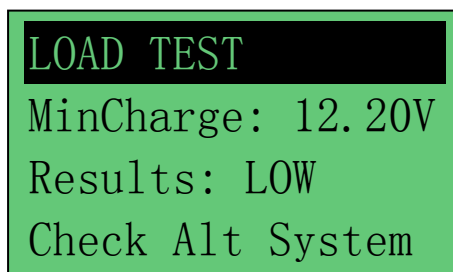

Figure 61
9. If either minimum or maximum charging volts are not within the voltage range limits then it will display one of the screen as below (Figures 61& 62) and it will prompt you to check the alternator system for the fault.